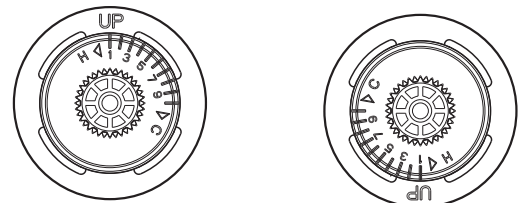

Figure 2.
- Rotate CARTRIDGE (1) 180° so that the Up text is displayed on the bottom side. As shown in FIGURE 2.